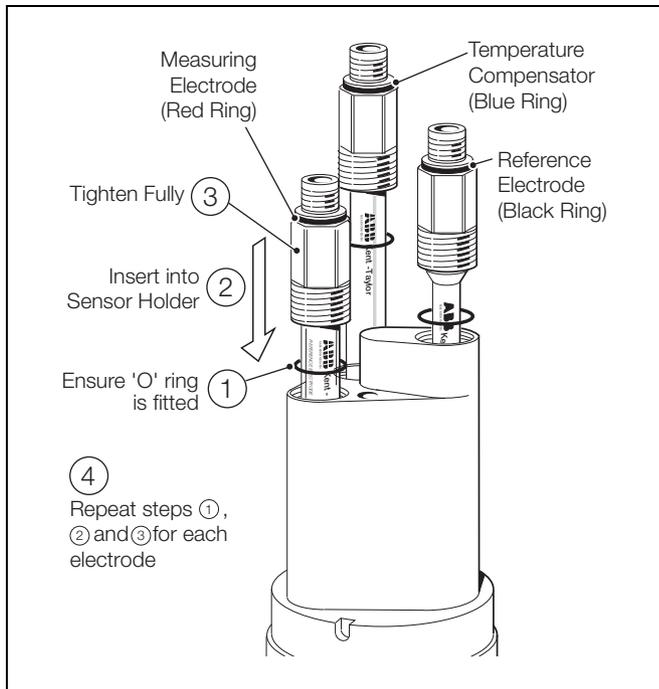

Fig. 3.9 Fitting the Electrodes into the Sensor Holder
5. Fit the reference electrode **IMMEDIATELY** ensuring that the 'O' ring is fitted over the electrode – see Fig. 3.9.
2. Fit the electrodes as shown in Fig. 3.9.